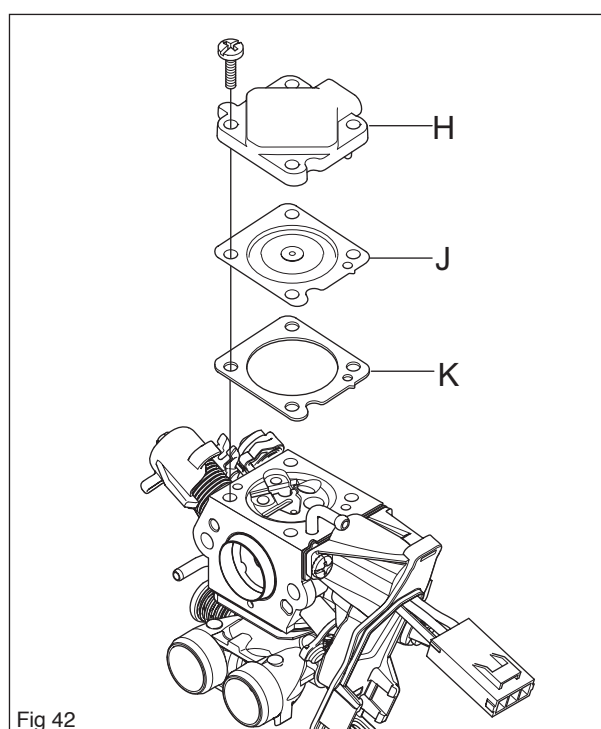

Fig 42
7. Fit gasket K, the control membrane J and the pump cover H. See figure 42.